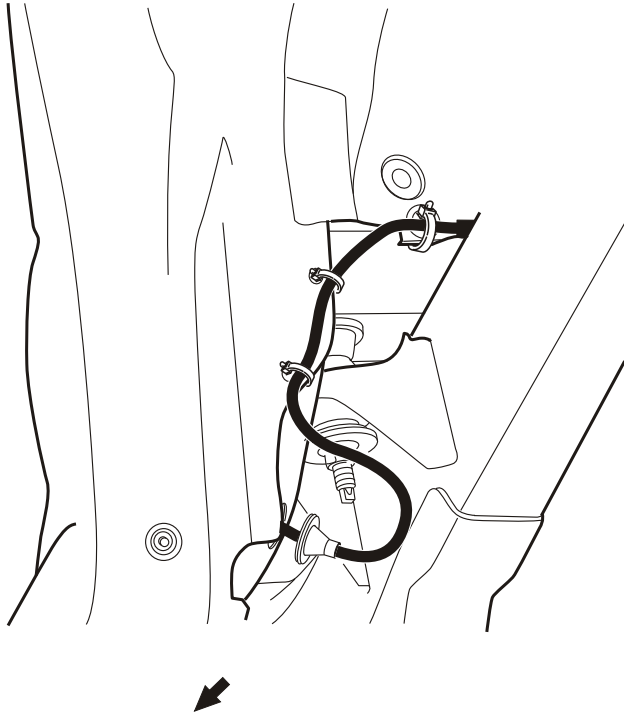

Figure 19
32. From the rear left lower corner of the vehicle, feed the canopy power harness up over the vehicle chassis and cable tie in position. Trim excess length from cable ties. Refer to figure 19.